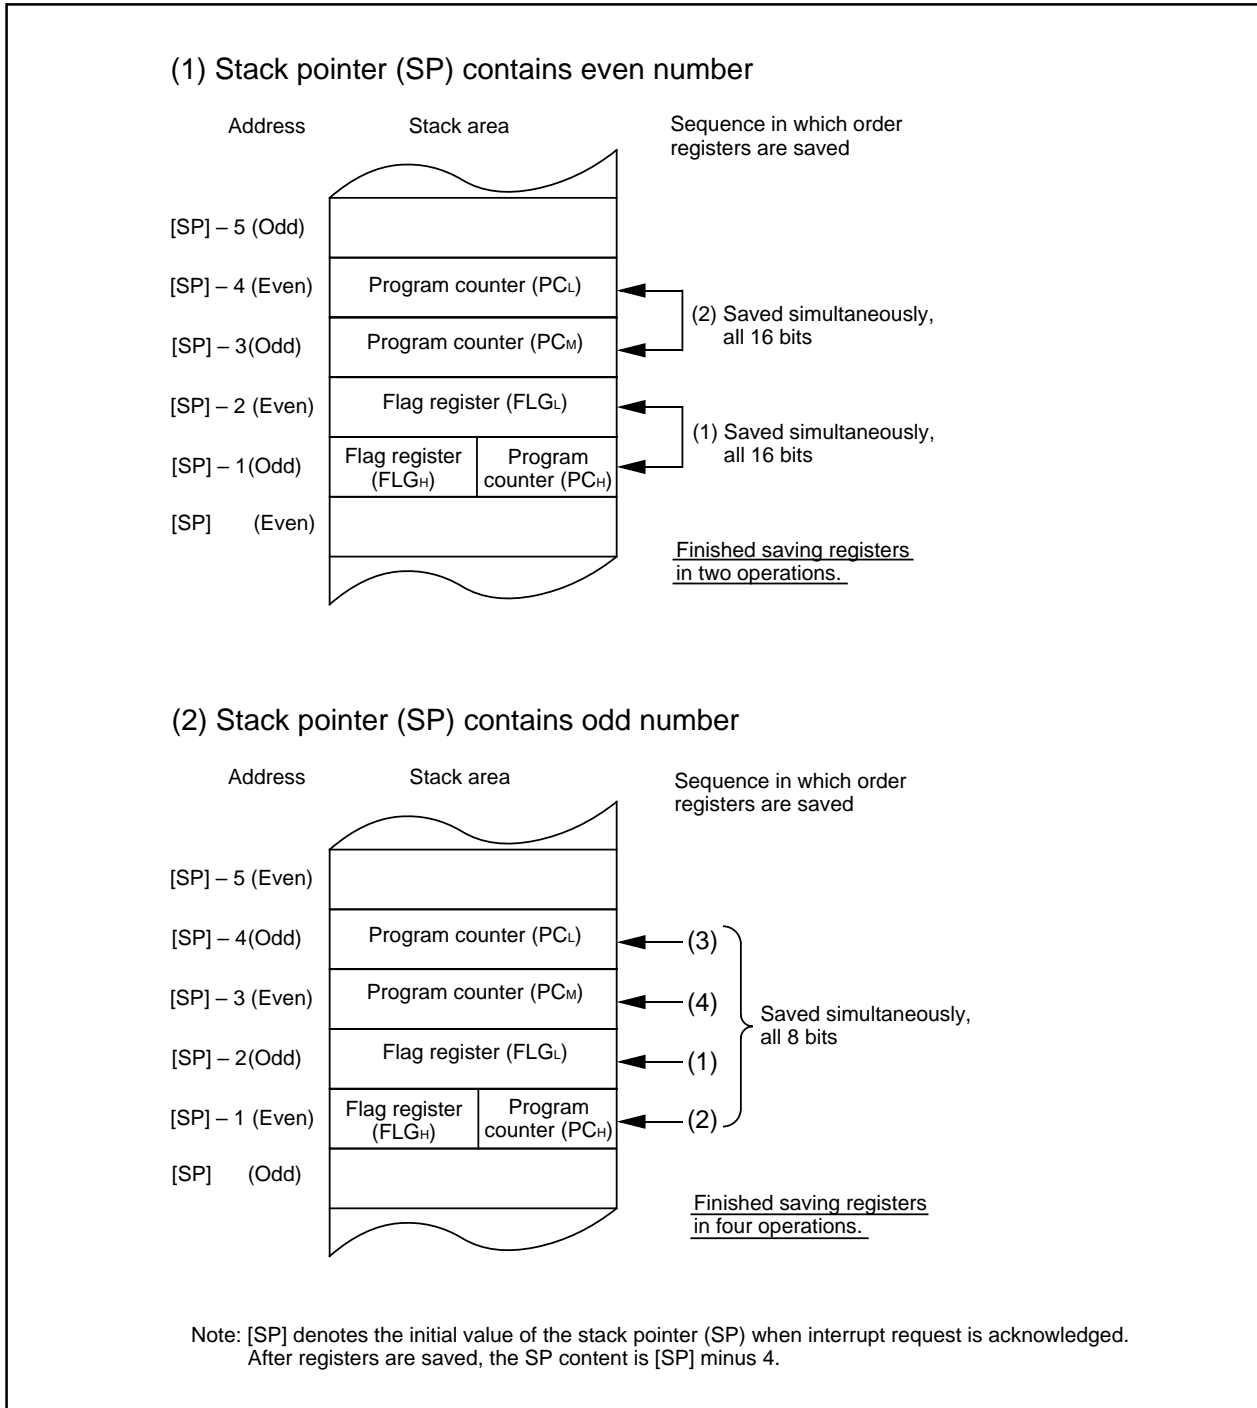

Figure 1.11.7. Operation of saving registers
The operation of saving registers carried out in the interrupt sequence is dependent on whether the content of the stack pointer (Note), at the time of acceptance of an interrupt request, is even or odd. If the counter of the stack pointer (Note) is even, the counter of the flag register (FLG) and the content of the program counter (PC) are saved, 16 bits at a time. If odd, their contents are saved in two steps, 8 bits at a time. Figure 1.11.7 shows the operation of the saving registers.